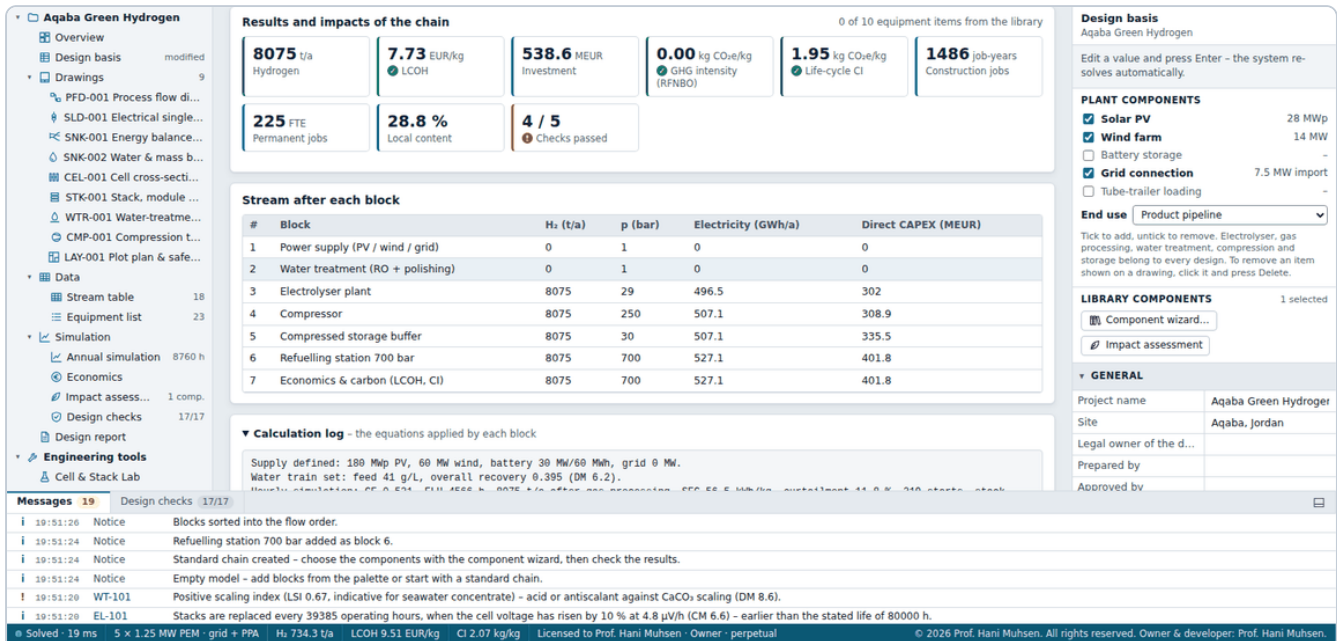

Figure S.11 – Results of the chain: key figures, stream after each block and calculation log.
- 6 Press **Run model**: the key results, the stream after each block and the calculation log appear (Figure S.11).